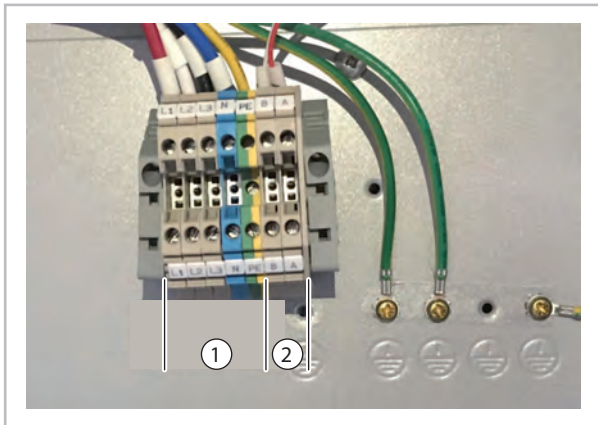

Fig. 11: WKF/WKF compact 170 outdoor unit connection terminal
- With the WKF/WKF compact 170 series, make sure that only terminals L1(R), L2(S), L3(T) and N are connected (see Fig. 11).